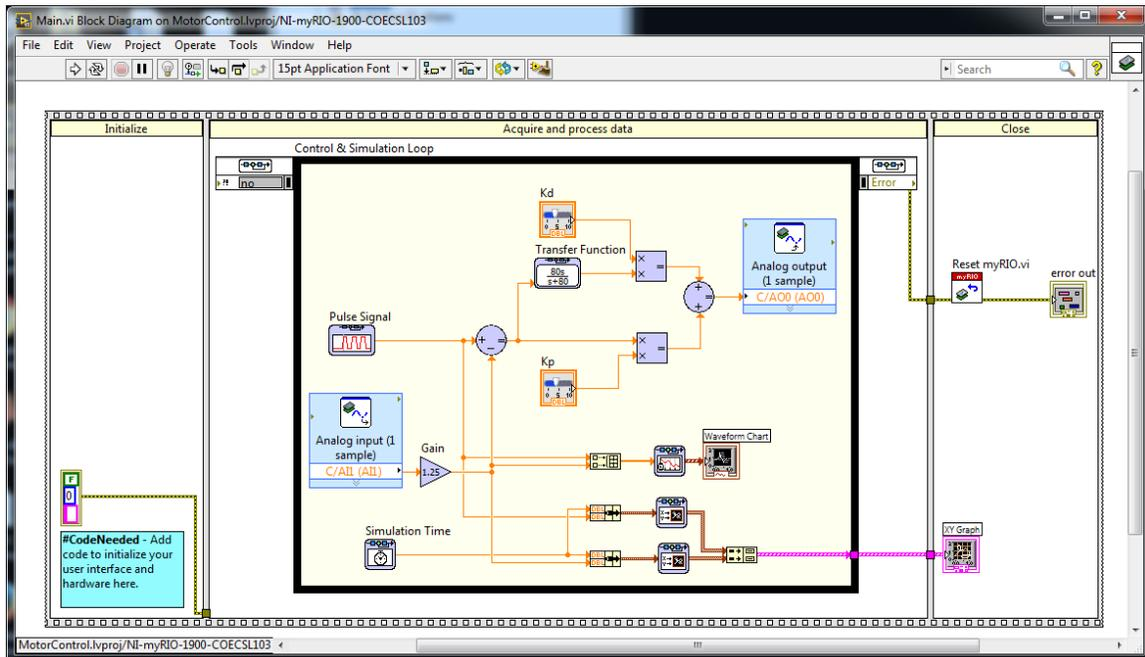

Figure 9: LabVIEW Block Diagram for the Proportional-Derivative Controller
You will now replace the previous controller with a P-D controller similar to the one shown in Figure 9.
- Go back to the block diagram and make the connections to match Figure 9.